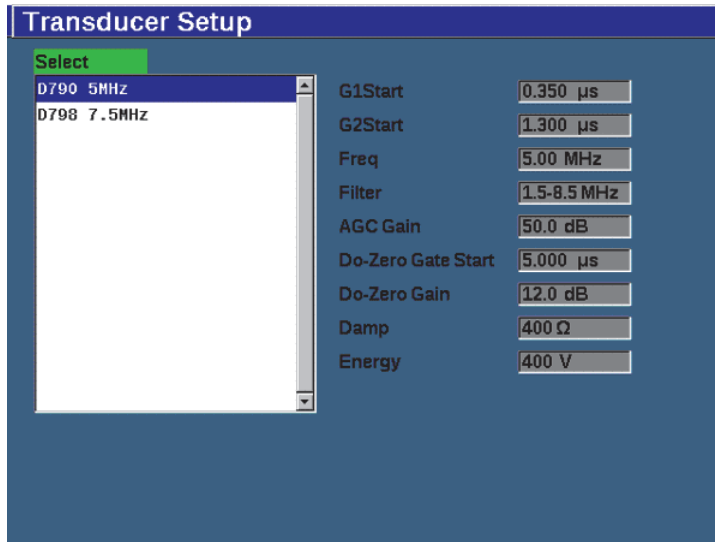

Figure 11-38 Corrosion Module transducer Setup menu
3. Press  to finish the activation and display the **Transducer Setup** page (see Figure 11-38 on page 291).